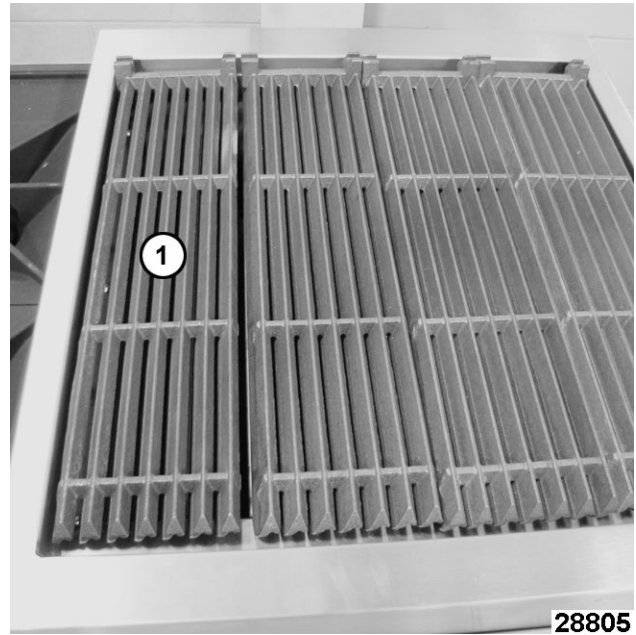

Fig. 67
2. Remove grate (1, Fig. 67) from charbroiler.